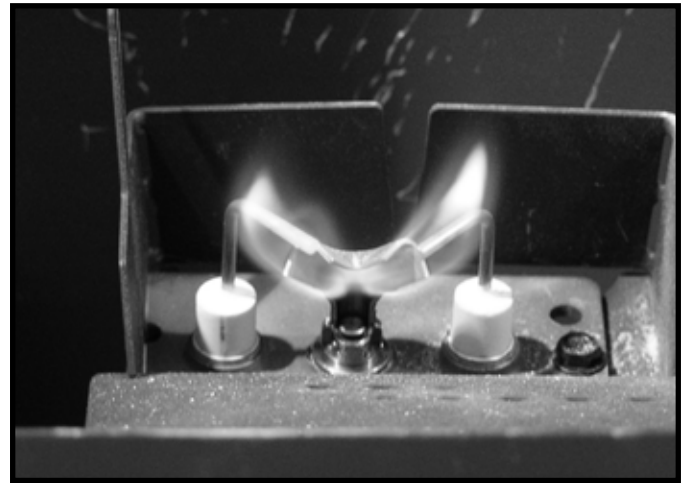

Figure 4.2 IPI Pilot Flame Patterns
- Inspect pilot flame pattern and strength. See Figure 4.2 for proper pilot flame pattern. Clean or replace orifice spud as necessary.